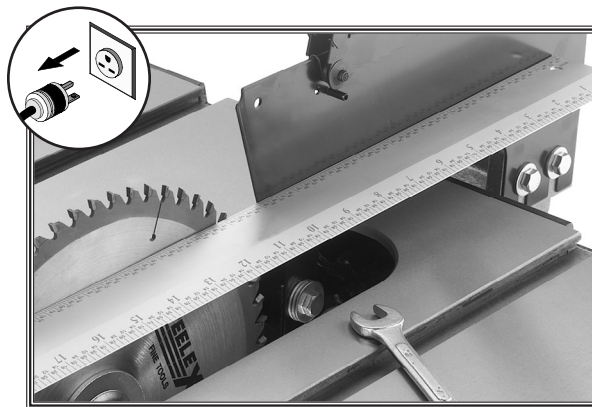

Figure 29. Aligning splitter to blade.
17. Raise the blade up to full height, and use a straight-edge to align the blade with the blade splitter, as shown in **Figure 29**.